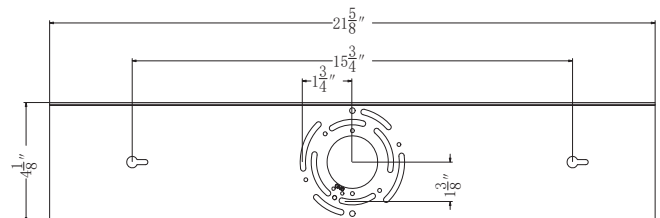

FIG. 2 Wiring
#### CONNECTING THE WIRES (Fig. 2)
7. Connect the fixture's wires to junction box wires as shown (Fig. 2). Make sure that all wire connectors (A) are secure. If your outlet box has a green or bare copper ground wire, connect the fixture's ground wire to it. Otherwise, connect the fixture's ground wire directly to the back plate using the screw provided. After wires are connected, tuck themcarefully inside the junction box.